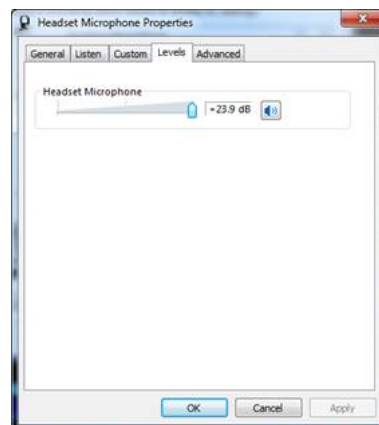

Figure 7—Headset Microphone Level Settings.
Step 9: select the Levels tab and adjust the Headset Microphone level to maximum as shown in Figure 7. *Note: you can change from percent to dB by right clicking in the numerical display box.*